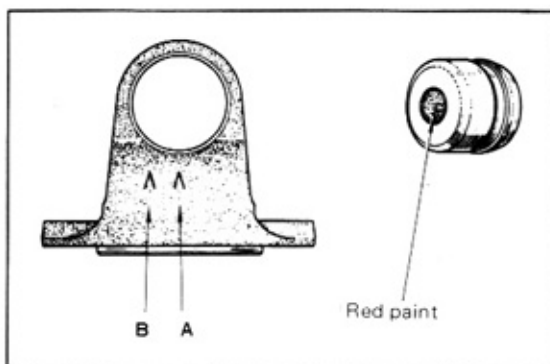
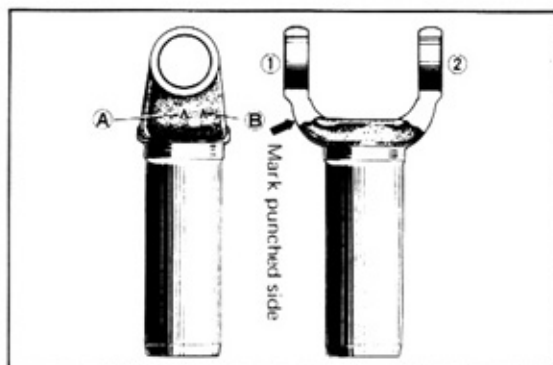

Fig. 3-12 Take In Marks
Fig. 3-13 ^ Shape Punched Marks
1. In Fig. 3-12 and Fig. 3-13 , the presence of “^” mark at position A indicates bore size of hole at punch marked side. Presence of “^” mark at position B indicates bore size of hole at side opposite to that with the punch mark.